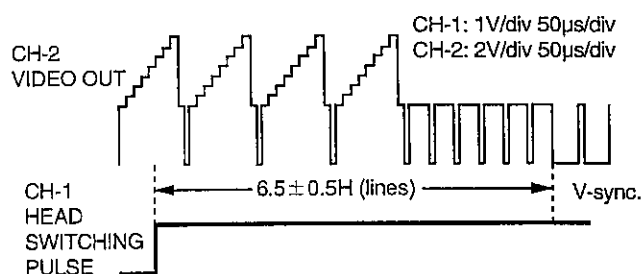

Figure 5-2.
7. Make sure the head switching point has been properly adjusted. Play back the alignment tape and check to see if the waveform on the oscilloscope screen is as shown in figure 5-2.